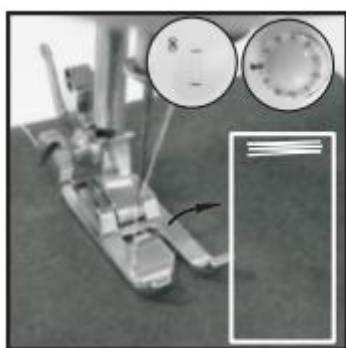

Fig. 17
2. Turn on the switch and sew 5-6 stitch in low speed, then turn off the switch (Fig.17).